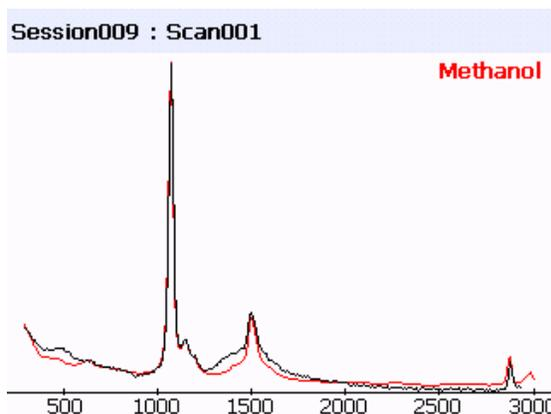

Figure 2-11: Comparison of Spectra
- l) Press the ESC key to return to the *Results* screen with the Slide In tab (Figure 2-8), move the cursor to *View Spectrum* and press **Enter** to view the spectrum (Figure 2-11).